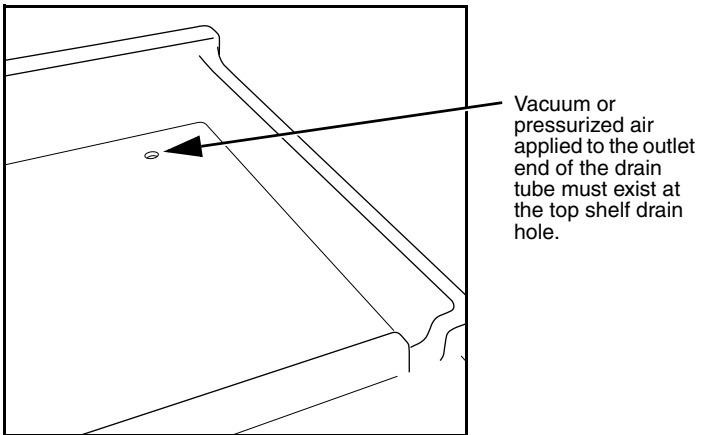

Figure 3-5 Top Shelf Drain
2. Test the top shelf drain by connecting a vacuum or air supply source to the outlet end of the drain tube. Then, verify the presence of such vacuum or air supply source on the drain (Figure 3-5).